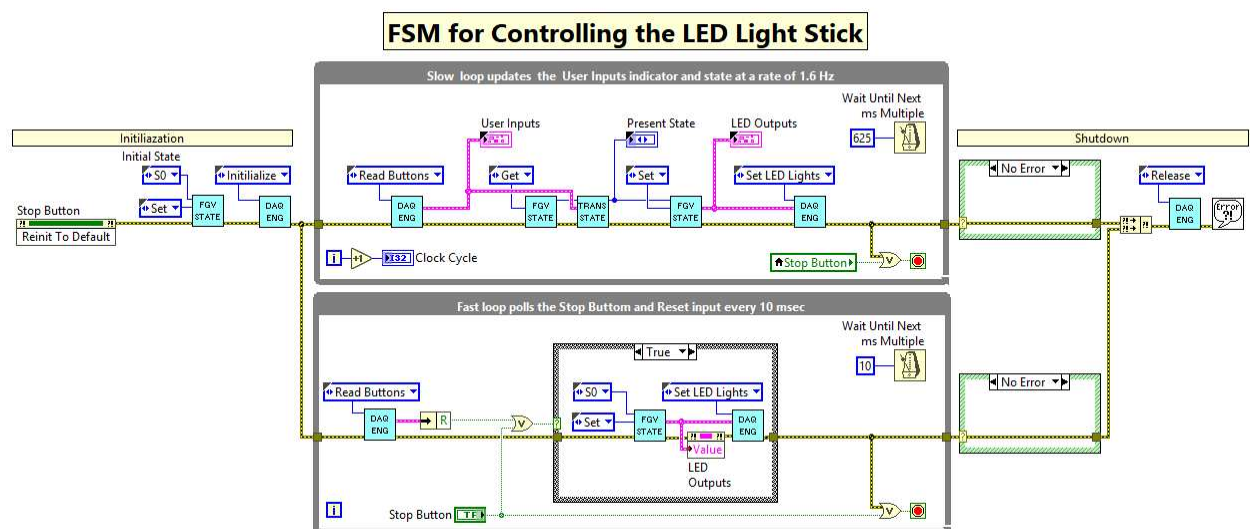

Figure 3: Required block diagram for **Project 2(Main).vi**.
3. Do not alter the front panel of the **Project 2(Main).vi** as shown in Figure 3, and complete the block diagram as shown in Figure 3. You will also need to complete the subVIs **Set State(FGV).vi**, **Transition State.vi**, and **myDAQ Action Engine.vi**.